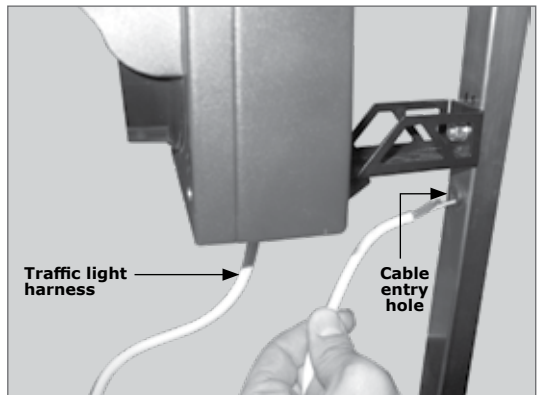

FIGURE 14
4. Route the traffic light harness through the cable entry hole and down through the post so that it protrudes from the bottom as shown in Figure 14.